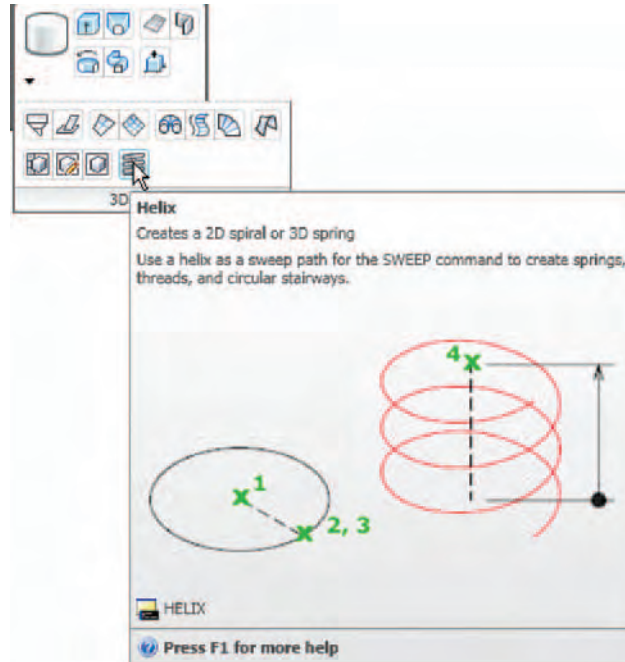

Fig. 14.35 The **Helix** tool icon in the extension of the **Home/3D Modeling** panel
The **Helix** tool can be called with a *click* on its tool icon in the extension of the **Home/3D Modeling** panel (Fig. 14.35).
end of the helix as shown in Fig. 14.35. This may mean moving and rotating the outline in a selection of the **ViewCube** views.
3. Call the **Helix** tool from the **Home/3D Modeling** panel (Fig. 14.35) or from the **Modeling** toolbar. The command line shows: